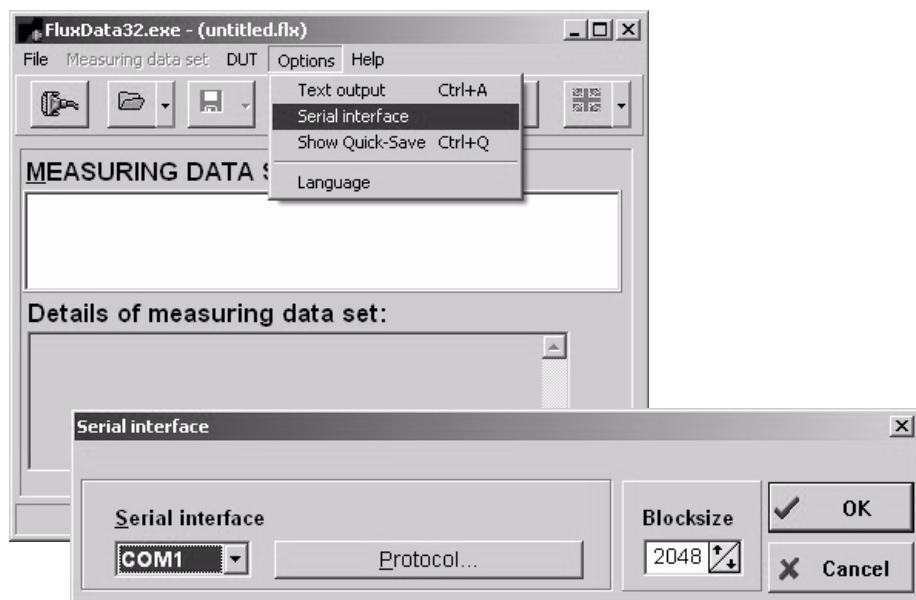

Fig. 13.1: Selection of the serial interface
- In the program `FluxData`, open the menu "Options" and select "Serial interface". Select the Default protocol and the serial port of the PC that the transmitter is connected to (e.g. COM1 in Fig. 13.1). Click on OK.